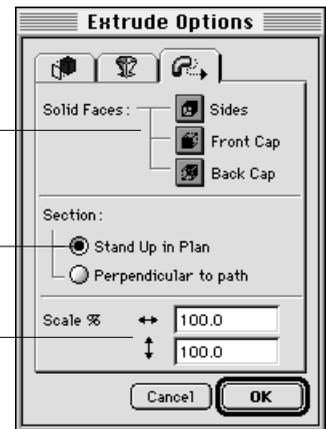

Fig. 68 Sweep extrusion settings
7. Make the settings in the Extrude Options dialog box match the illustration (*figure 68*), and then click OK.